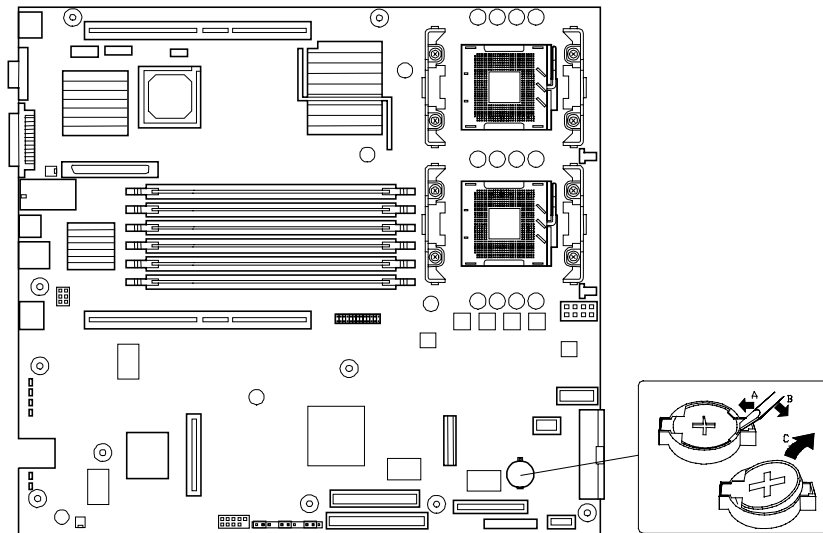

Figure 4-6. Replacing the Real-Time Clock Battery
The 3V battery (Vendor Part #CR2032) is a commodity part available through many vendors. It is located on your system board (see Figure 4-6). Notice the plus (+) sign on the battery. This sign will assist you in correctly positioning the battery on the system board. Contact your service representative or dealer for a list of approved devices.
5. If present, remove the protective plastic cover located over the top of the lithium battery (see Figure 4-6).
6. Insert the tip of a small flat-bladed screwdriver, or equivalent, under the plastic tab on the plastic retainer (see Figure 4-6, A).
7. Gently push down on the screwdriver to lift the battery (see Figure 4-6, B).
8. Remove the battery from its socket (see Figure 4-6,C).